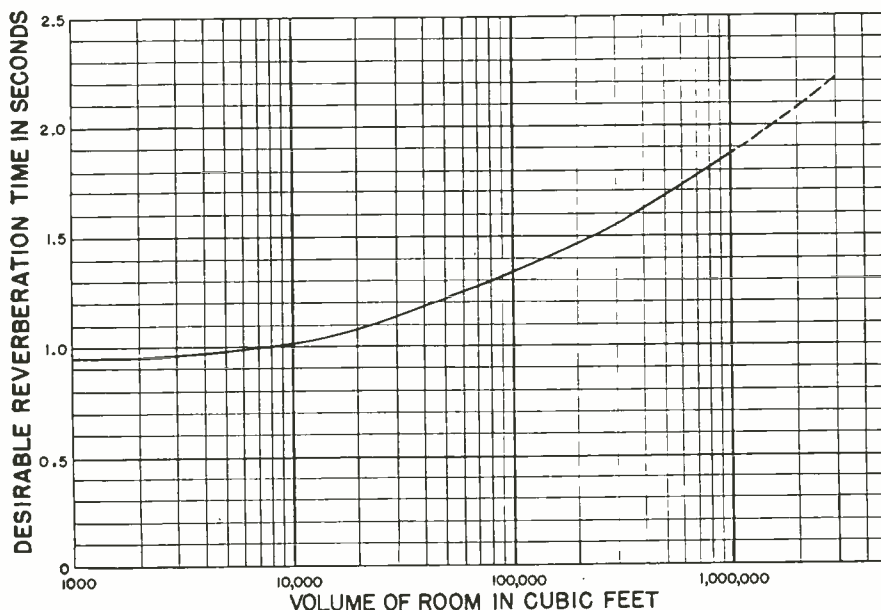

Fig. 4—Desirable reverberation time vs. volume of room (for 512 cycles).
1. That the reverberation time of the room is optimum for its volume (Fig. 4).